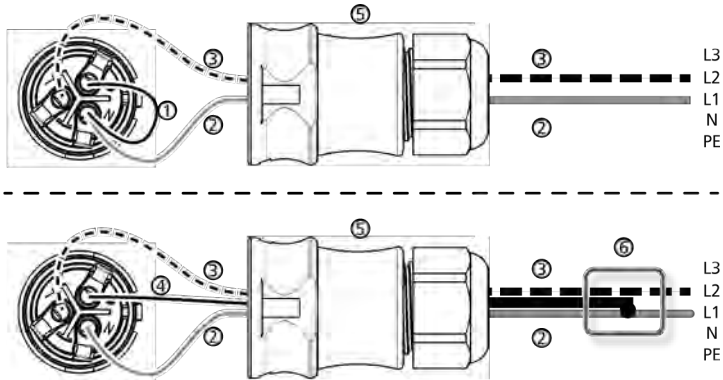

Fig. 6: Connection of N and PE in the AC plug (above) or junction box (below)
- N and L are connected between the L1 – L2 external conductors at the inverter side. See ② and ③ in Fig. 6.
- One of the two connected external conductors is connected to PE at the inverter side. This connection can be made within the AC plug or in an external junction box. Fig. 6 shows an example of an inverter-side connection between L1 and PE:
- Fig. 6 as above.
2. ➔ Connect one of the two connected phases to PE at the inverter side. Make this connection inside the AC plug or use an external junction box, as shown in Fig. 6.